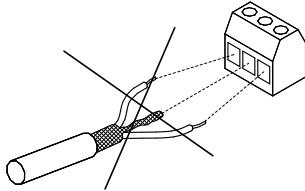

Fig. 39 Do not twist the screen ends
- Avoid terminating the screen by twisting the ends. See fig. 39. Use cable clamps or EMC screwed cable entries instead.